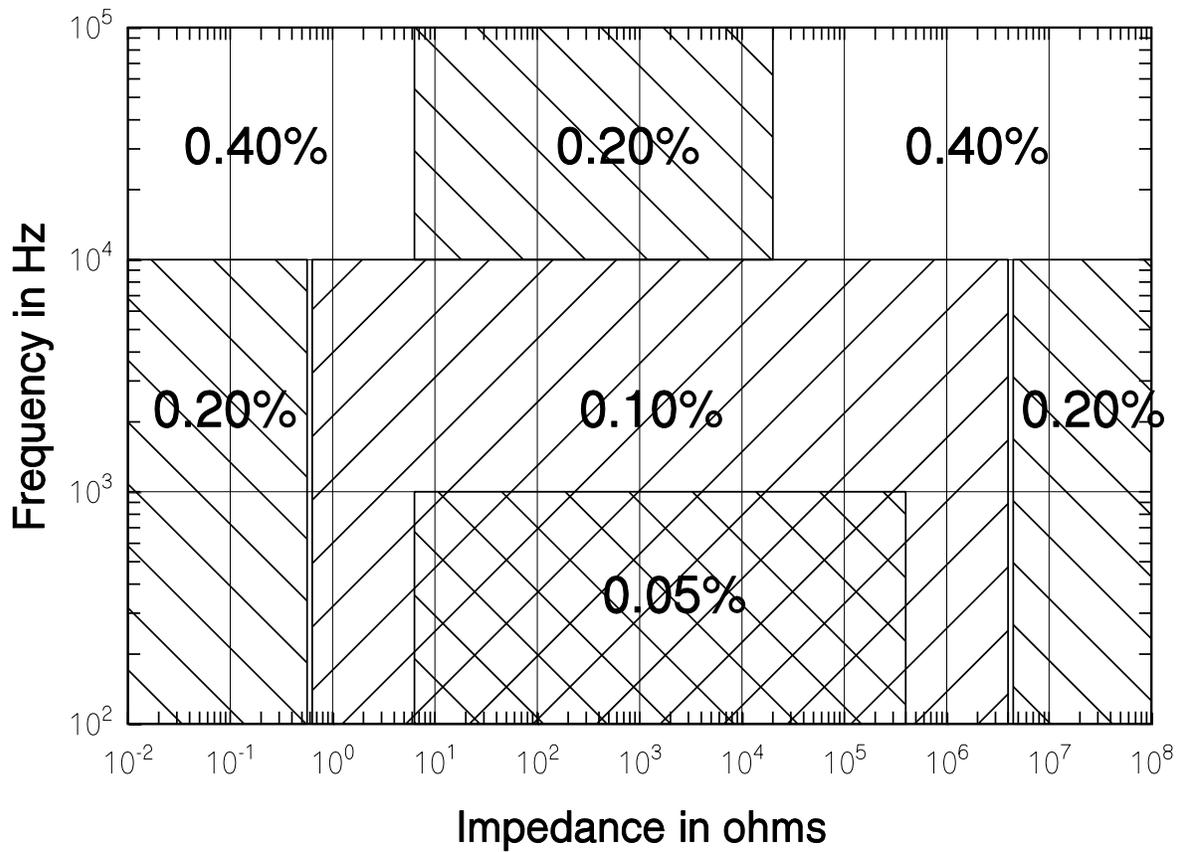
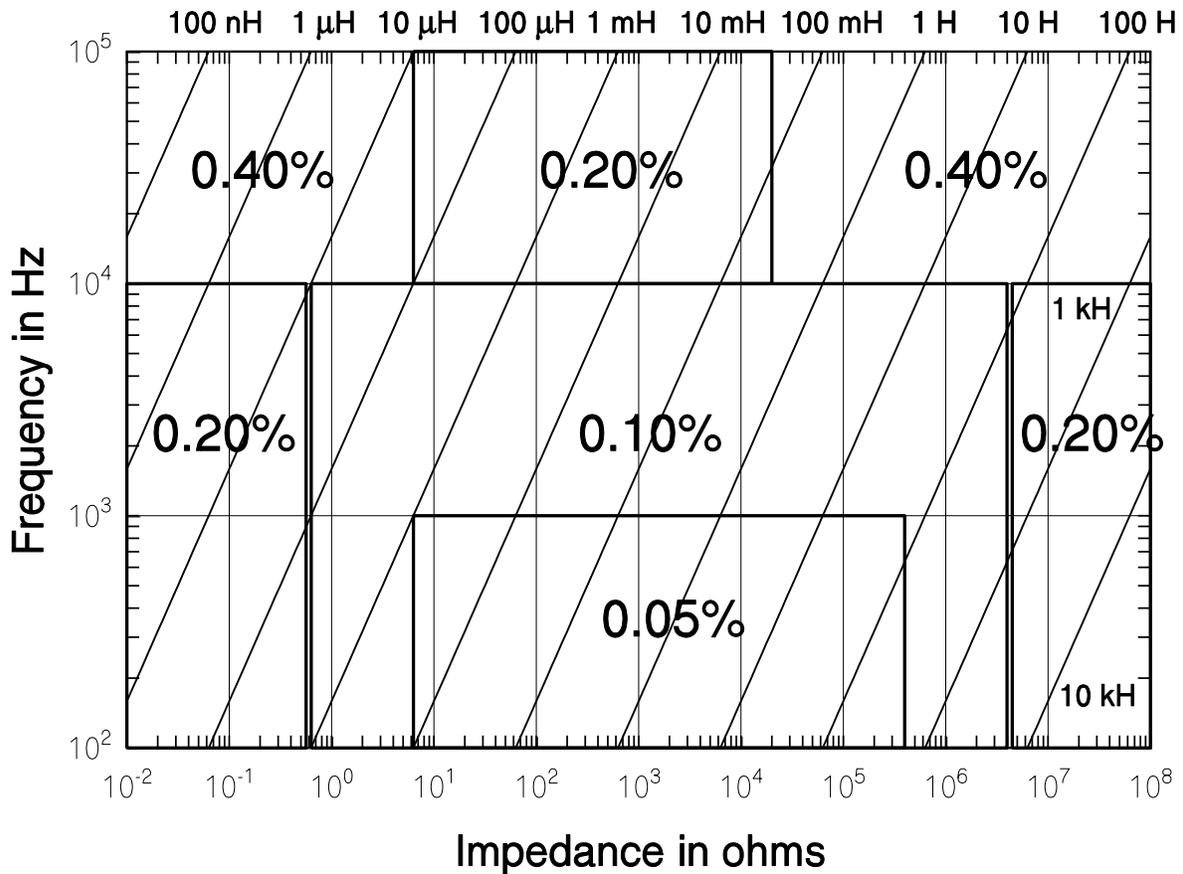
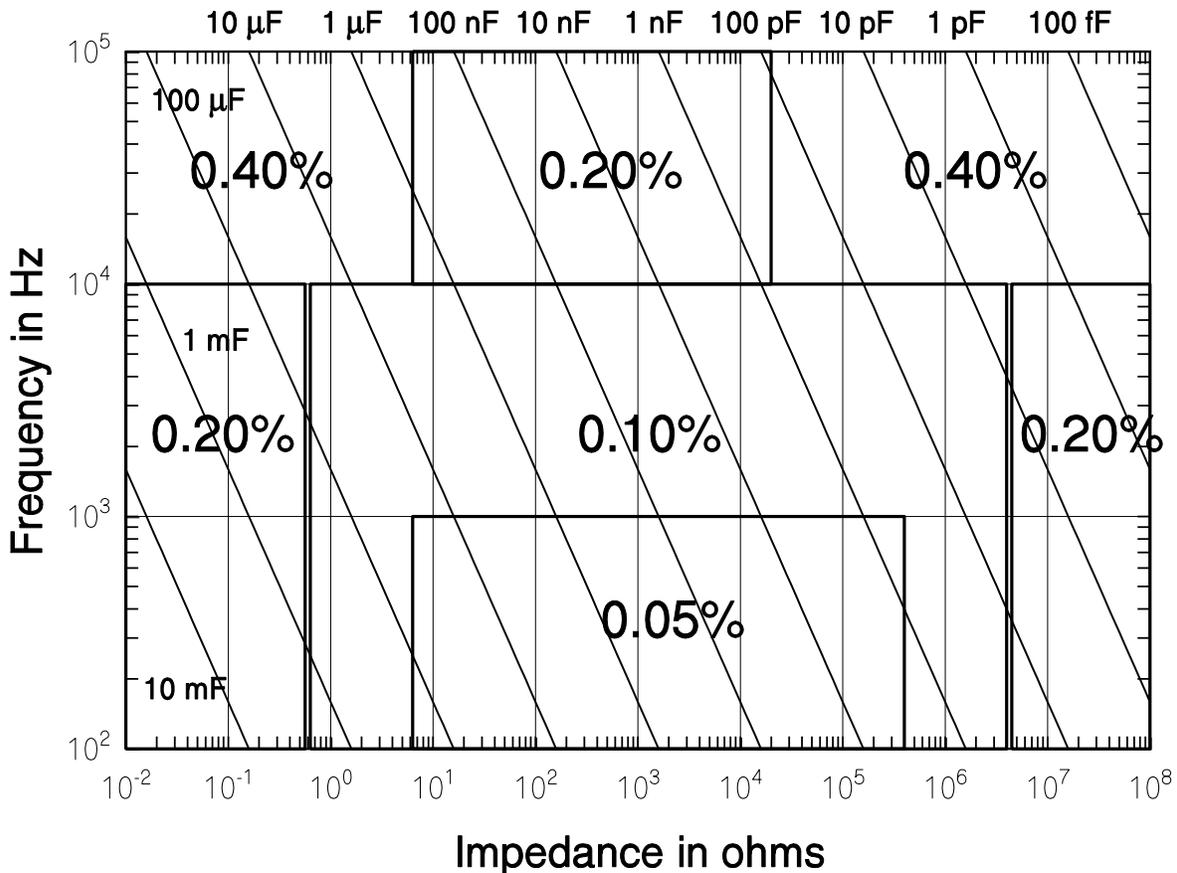

Figure 2-1 Basic Impedance Accuracy
Figure 2-2 Basic Impedance Accuracy for Inductances
Figure 2-3 Basic Impedance Accuracy for Capacitances
A = the basic impedance accuracy from Figure 2-1, which should be multiplied by two if the unit is in constant voltage mode. Figure 2-1 is based on the fact that the best accuracy occurs when the impedance to be measured is greater than $\frac{1}{4}$ the source resistance and less than 4 times that resistance, and when the test frequency is 1 kHz or less.
In the R + Q measurement mode, the basic impedance accuracy A in the equation for impedance accuracy may be read from Figure 2-1 directly while interpreting the “impedance” as “resistance.” The resistance accuracy is calculated from equation (1) above, with the additional stipulation that if the measured Q has an absolute value greater than 0.1, then the basic resistance accuracy factor should be multiplied by the factor $(1 + |Q|)$. Let the basic resistance accuracy factor be denoted A_r . Then the accuracy of the measurement of Q is given by
The basic impedance accuracy depicted in Figure 2-1 applies to inductance measurements when the impedance is interpreted to be $2\pi fL$, where f is the test frequency in Hz and L is the inductance in Henrys. For convenience, Figure 2-1 is redrawn in Figure 2-2 with lines of constant inductance superimposed. Also, Table 2-3 is recreated for inductive impedances as Table 2-4. Note from Table 2-4 that the range error factor K_l is negligible for inductances above $15.9/f$ H and K_h is negligible for inductances below $159/f$ H.
The basic impedance accuracy depicted in Figure 2-1 applies to capacitance measurements when the impedance is interpreted to be $1/2\pi fC$, where f is the test frequency in Hz and C is the capacitance in Farads. For convenience, Figure 2-1 is redrawn in Figure 2-3 with lines of constant capacitance superimposed. Also, Table 2-3 is recreated for capacitive impedances as Table 2-5. Note from Table 2-5 that the range error factor K_l is negligible for capacitances below $1590/f \mu\text{F}$ and K_h is negligible for capacitances above $159/f \mu\text{F}$.
The basic impedance accuracy depicted in Figure 2-1 applies to capacitance measurements when the impedance is interpreted to be $1/2\pi f C$, where f is the test frequency in Hz and C is the capacitance in Farads. For convenience, Figure 2-1 is redrawn in Figure 2-3 above with lines of constant capacitance superimposed. Also, Table 2-3 is recreated for capacitive impedances in the C + R measurement mode as Table 2-6. Note from Table 2-6 that the range error factor K_i is negligible for capacitances below $1590/f$ μF